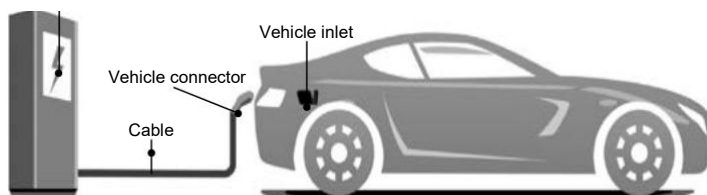

Fig. 6-13 Plug into EV
- As shown in Fig. 6-13, plug the charging connector into the AC charging socket of the EV, and the LED of the charging station lights yellow.